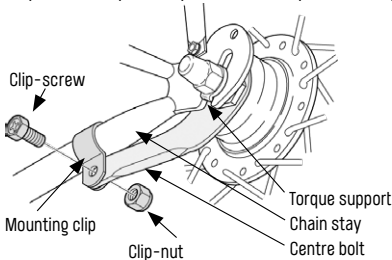

Fig. 3/31 Centre bolt; source Shimano
- Coaster brakes are fitted with a centre bolt („Fig. 3/ Centre bolt; source Shimano“ on page 31), which rests on the chain stay of the frame. For correct operation, it must be firmly mounted using a fastening clip or directly on the chain stay.